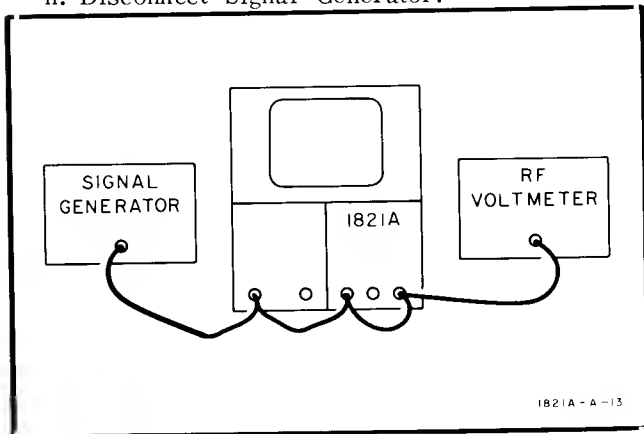

Figure 5-2. Delayed Triggering Test Set-Up
- g. Connect Signal Generator output and RF Voltmeter input to Channel A Input, Main EXT INPUT, and Delayed EXT INPUT as shown in Figure 5-2.